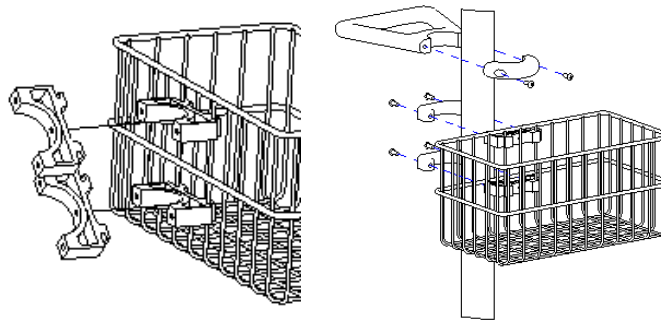

Figure 2
2. Adjust the upper part of the pole to a suitable height, fastening the locking screw. The basket buckle A is installed to the basket according to Figure 2, and then the basket buckle B is fixed on the upper of the pole, with a cross screwdriver use four M4\*16 pan head screws to fix the basket buckle A and B; then use two M5\*16 pan head screws to fasten the handle on the upper of the pole (Height can be adjusted to a suitable position according to the user needs).